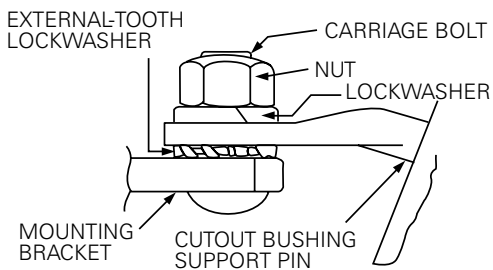

Figure 3. Mounting the cutout to the mounting bracket.
2. **Mount the cutout on the mounting bracket** making sure the external-tooth lockwasher is placed between the mounting bracket and the cutout bushing support pin (See Figure 3). Tighten the nut by hand.
1. **Remove the cap** from the upper ferrule of the fuseholder assembly (See Figure 3).